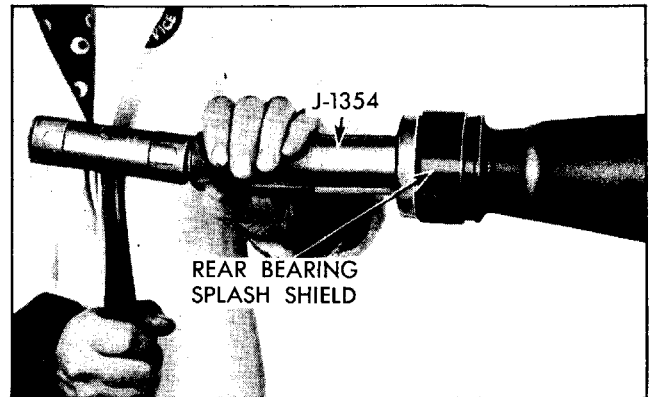

Fig. 7-7 Installing Oil Seal using Tool J-1354
6. Install new oil seal in bearing retainer using Tool J-1354 (Fig. 7-7).